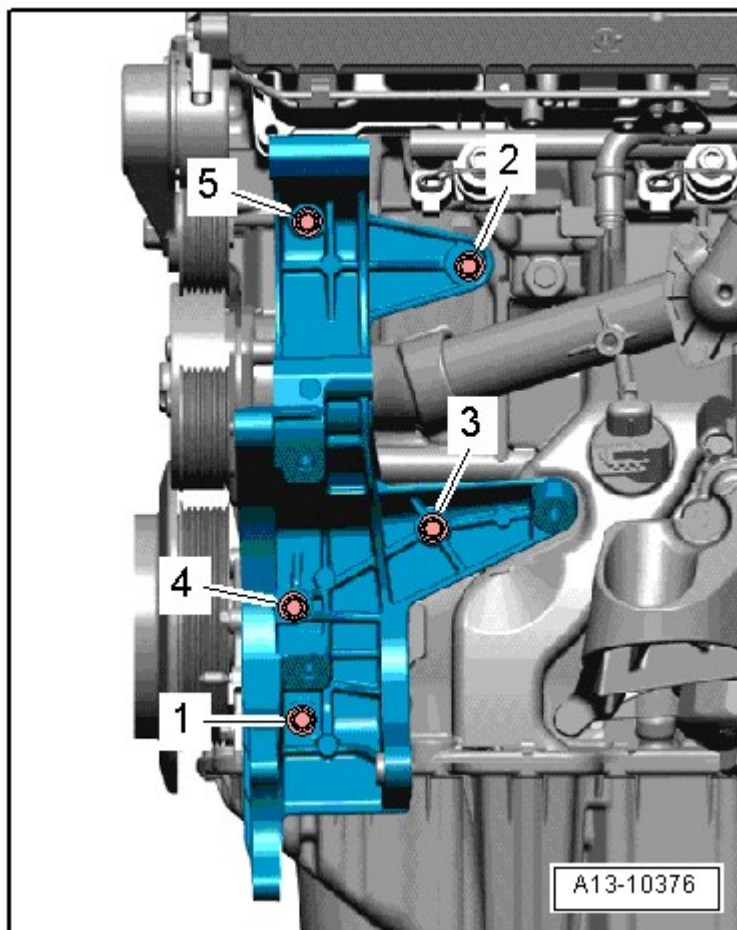

Fig. 2: Accessory Bracket Tightening Sequence
- Tightening sequence **Fig. 2**